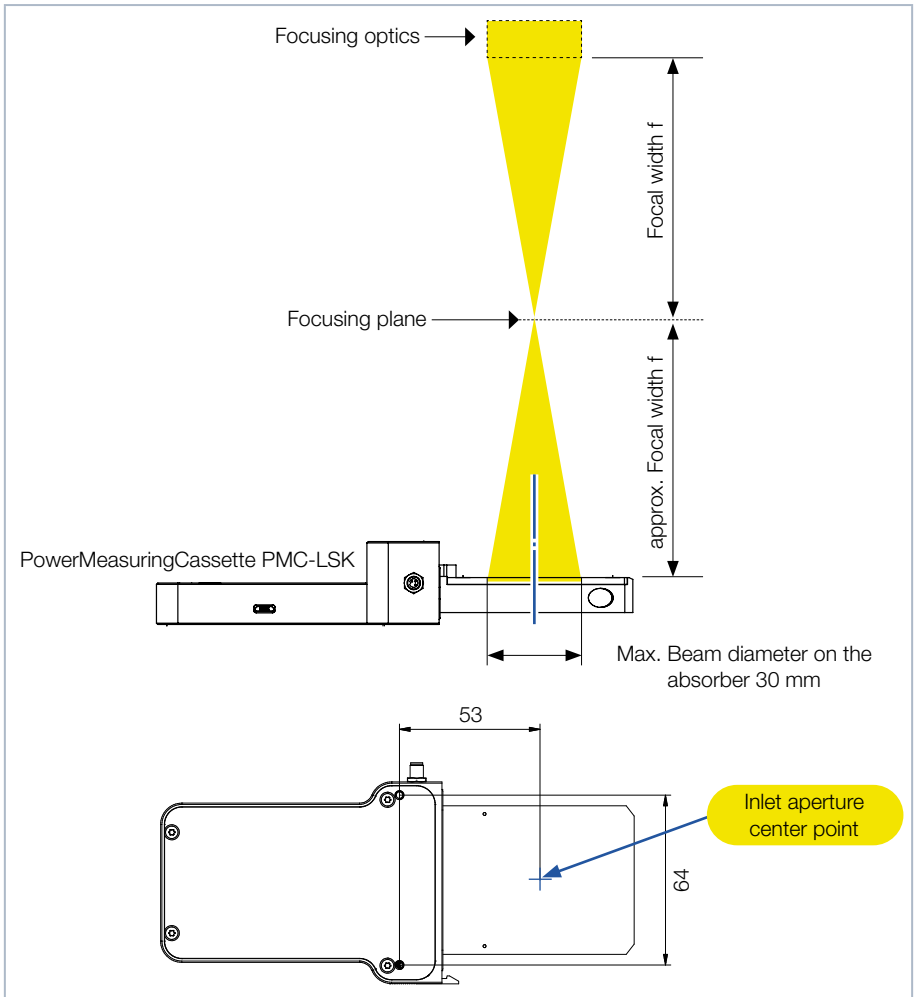

Fig. 6.1: Alignment to the laser beam (schematic) (dimensions in mm)
1. Align the device towards the laser beam as described in chapter 6.3.3 on page 20 and Fig. 6.1 on page 21.